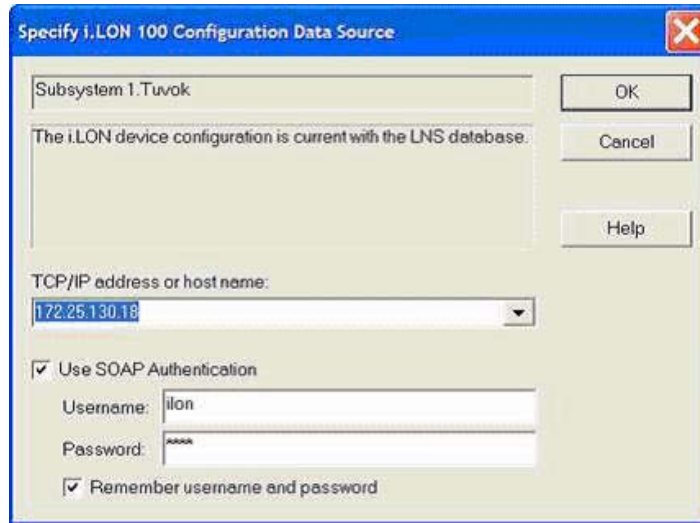

Figure 3.2 Specify *i.LON 100* Configuration Data Source Dialog
1. Select an *i*.LON 100 device or functional block as required by your LNS installation tool, and then start the plug-in. For example, if you are using the LonMaker tool, select an *i*.LON 100 device or functional block shape, and then click **Configure** on the shortcut menu. The Specify *i*.LON 100 Configuration Data Source dialog appears, as shown in Figure 3.2.
2. Enter the IP address of the *i.LON 100* server in the TCP/IP Address field. If you have configured the *i.LON 100* server to use a port other than 80, you must specify the port with the UP address. For example, to specify port 8080 with the IP address shown in Figure 3.2, you would enter 172.25.130.18:8080.